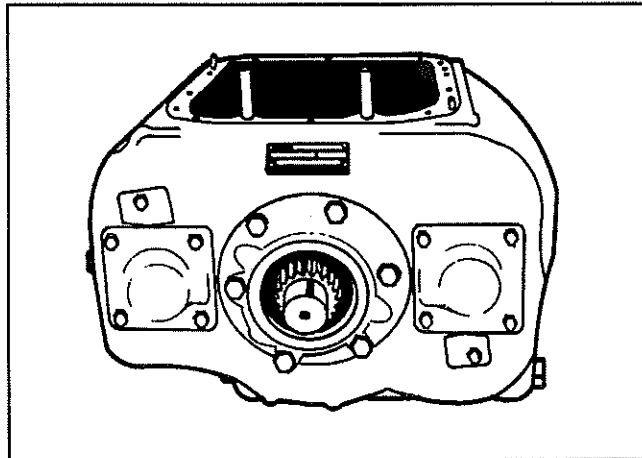

Fig. 74
17. Secure the countershaft rear bearing retainers with cap screws (see fig. 74). Tighten to 35 - 40 lbf·ft (45 - 55 N·m).